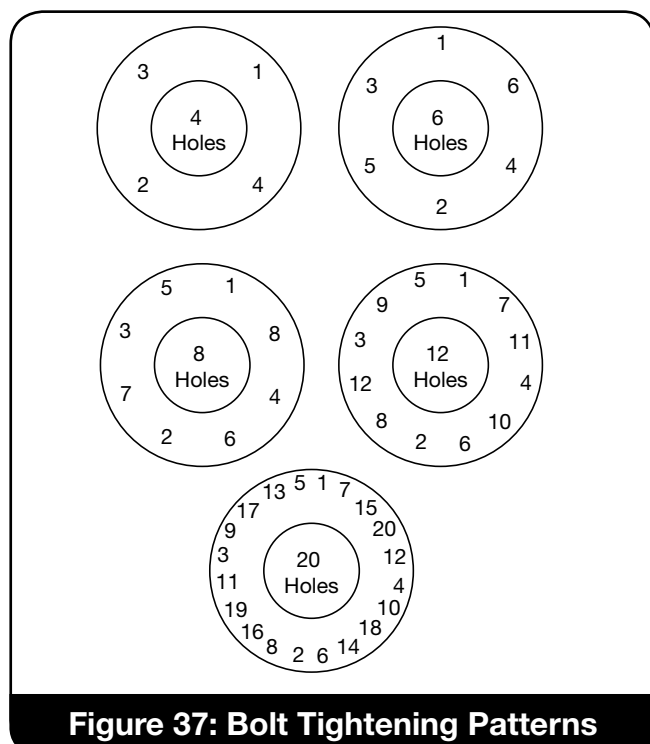

Figure 37: Bolt Tightening Patterns
- 16. Apply a small quantity of lubricant to the spring washer bearing surface of the spindle (15).
- 17. Place the spring assembly on the spindle (15).
- 18. Place a new bonnet gasket (12) in the base (1) before installing the bonnet (11). Uniformly tighten the stud nuts (14) using the appropriate bolt tightening pattern (see Figure 37). Determine the required torque for the subject valve (see Table 10). Determine the torque values for each round of the pattern (see Table 11). The last round ensures that all stud nuts are at the required torque.
- 19. With the adjusting screw locknut (20) assembled near the top of the adjusting screw (19), apply a small quantity of lubricant to the spherical end and threads of the adjusting screw.
- 20. Thread the adjusting screw (19) into the bonnet (11) until it contacts the spring washer (17).